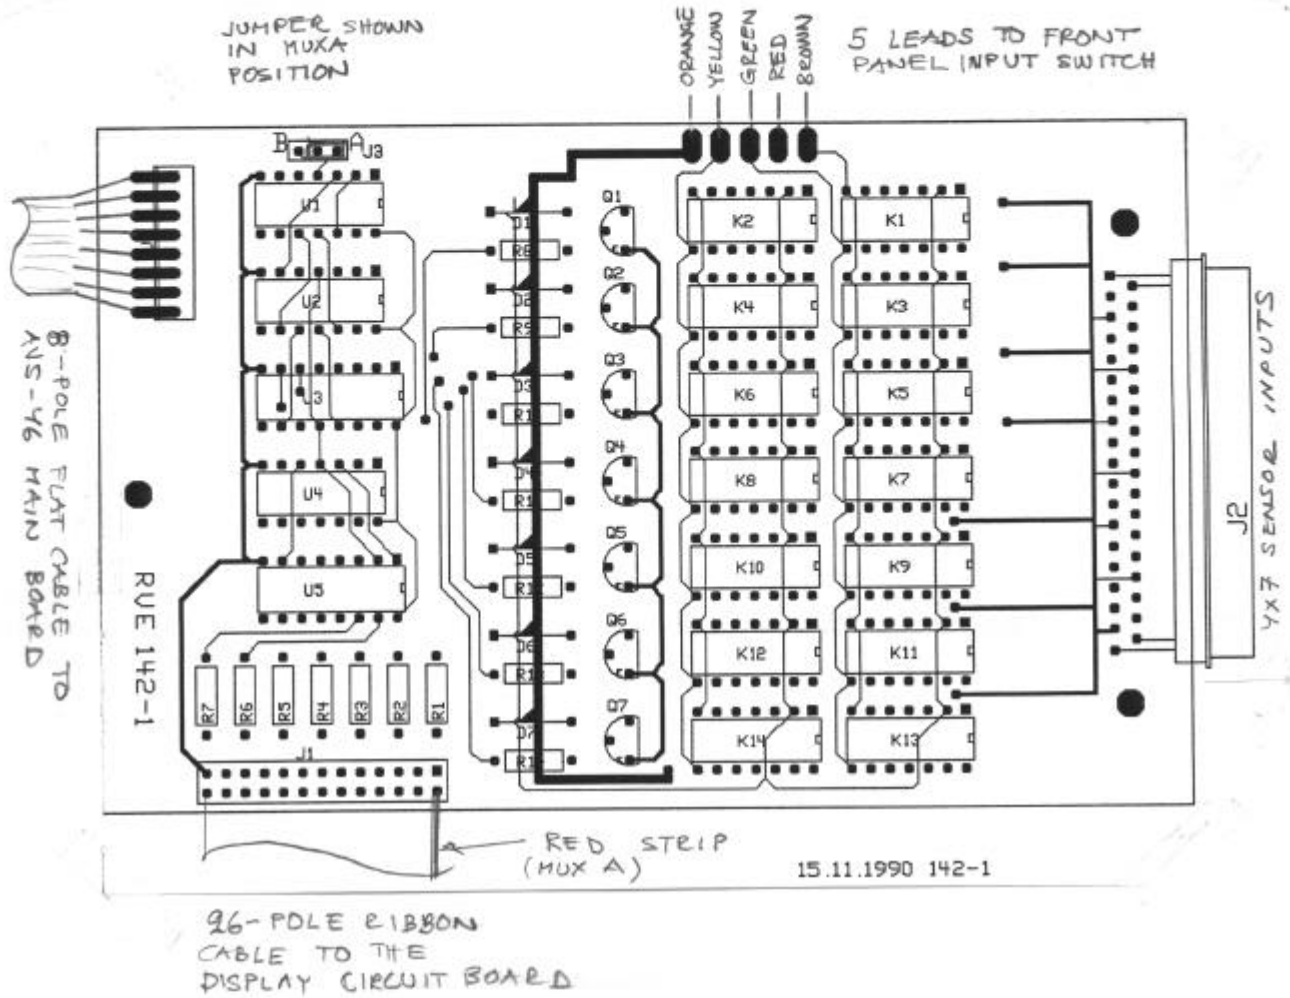

FIG 10-1: Multiplexer Board
- E) Solder the five wires to multiplexer board in the order shown by figure 10-1. Check that jumper JP1 is in REAR position.
- F) Install the ribbon cable as indicated by Fig. 10-1. Coloured strip should be on the input connector side (rear side).